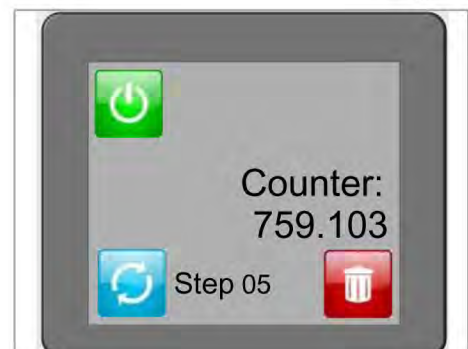

Fig. 7.4
- + first step (Fig. 7.4) for holding the inserted contact,